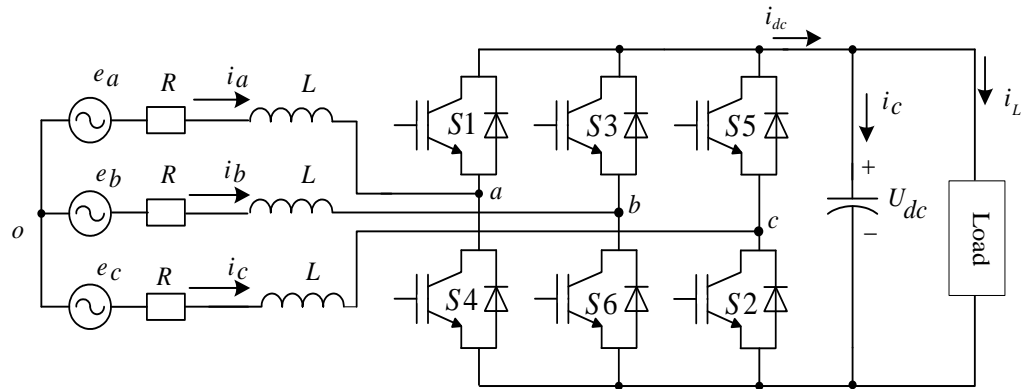

Figure 5.1 Two-level voltage source PWM rectifier
5. a. The Pulse Width Modulated PWM rectifier shown in figure 5.1 is connected to the grid through the three line inductors represented by L and R in figure 5.1 and is loaded by the inverter-fed motor.
a.i For the case in a) and with reference to figure 5.1 define switching functions for legs a, b and c and based on that define rectifier phase voltages v_{ao} , v_{bo} and v_{co} . (5)
a.ii Based on a.i) and with reference to figure 5.1 mathematically describe the PWM rectifier in natural three-phase coordinates. (4)
- b. Represent the model developed in a) in s-domain and based on that draw a block diagram of a voltage-source PWM rectifier in natural three-phase coordinates. (5)
- c. Select gate-drive signals for switches S1 and S4 shown in figure 5.1 considering their finite turn on and turn off times. The device switching frequency is 10 kHz, turn on time is $0.3\mu\text{s}$ and turn off time is $0.65\mu\text{s}$. Justify your selection. (4)